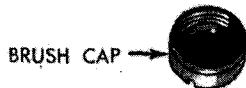

Figure 331. Removing crew compartment heater motor brushes.
c. BRUSH REPLACEMENT. Remove crew compartment heater (par. 322). Remove slotted brush cap from rear of blower motor (fig. 331). Remove brush assembly. Measure length of brush. If length is five-sixteenths of an inch or less, replace brush. Insert new brush assembly in motor housing. Install brush cap and tighten securely. Install crew compartment heater (par. 322).